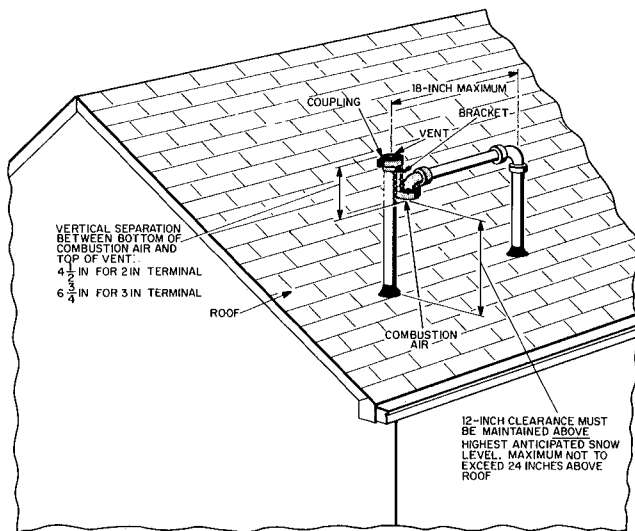
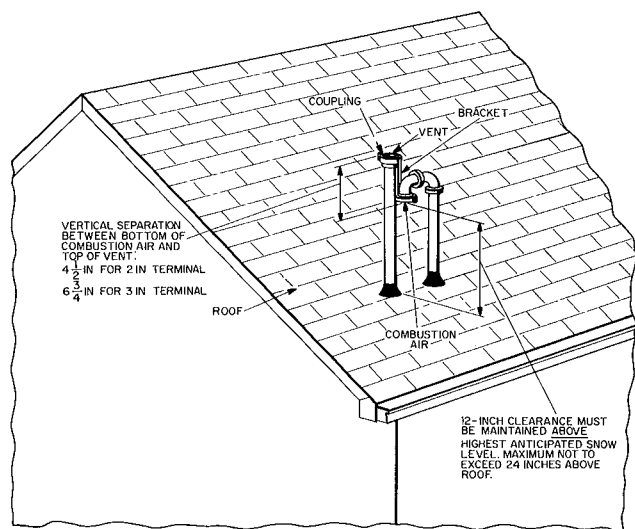

Fig. 2 — Rooftop Termination (Preferred)
Fig. 3 — Rooftop Termination (Option)
Vent Terminal Kit Installation — The combustion-air and vent pipes must terminate outside the structure. The Carrier accessory vent termination kit (required) must be installed as shown in Fig. 2-7. Roof termination, shown in Fig. 2, is preferred.
ROOFTOP VENT TERMINAL INSTALLATION (Fig. 2)
NOTE: The arrangement in Fig. 2 is preferred. The arrangement in Fig. 3 is an option for the combustion-air pipe.
3. Loosely install pipe coupling, provided in kit, on properly cut vent pipe. Position coupling so that bracket will mount as shown in Fig. 2.
5. Install bracket as shown in Fig. 2.
6. For applications using combustion-air pipe option as shown in Fig. 3, install 90 degree vent street ell into 90 degree elbow, making a U-fitting. Install the open end of 90 degree vent street ell onto combustion-air pipe.